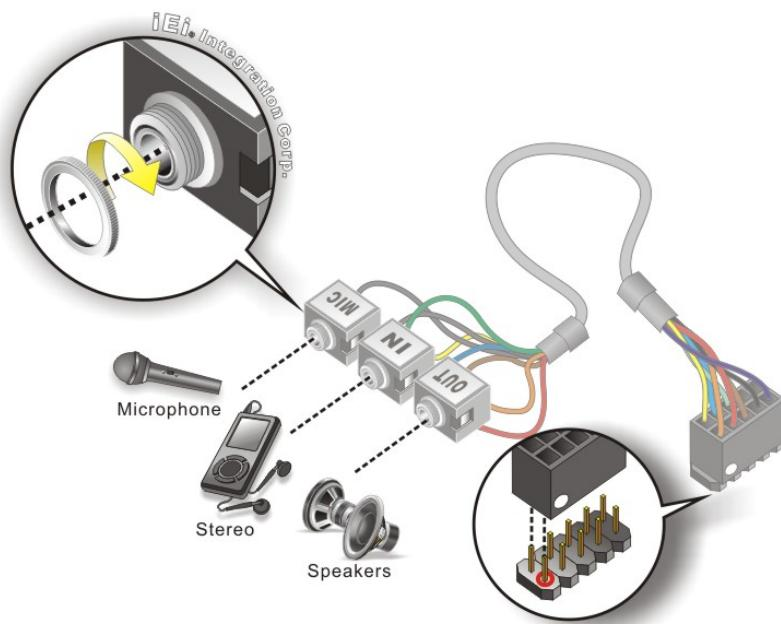

Figure 4-21: Audio Kit Cable Connection
**Step 2: Align pin 1.** Align pin 1 on the on-board connector with pin 1 on the audio kit connector. Pin 1 on the audio kit connector is indicated with a white dot. See **Figure 4-21**.